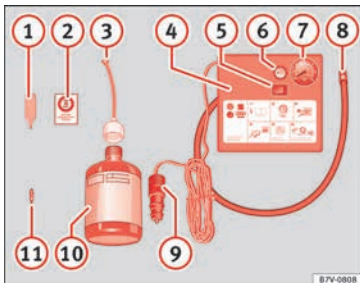

Fig. 103 Standard representation: Contents of the tyre mobility system.
The tyre mobility system is located underneath the floor covering in the boot. It includes the following components »» Fig. 103:
Screw the inflator tube »» Fig. 103 ⑧ again and check the tyre pressure on the gauge ⑦.